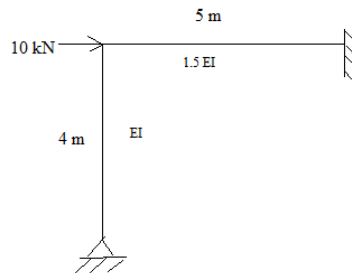

Figure:2 BL-4 (CO-3) (5M)
- b. Illustrate B.M.D for the frame as shown in figure:2 using displacement method.